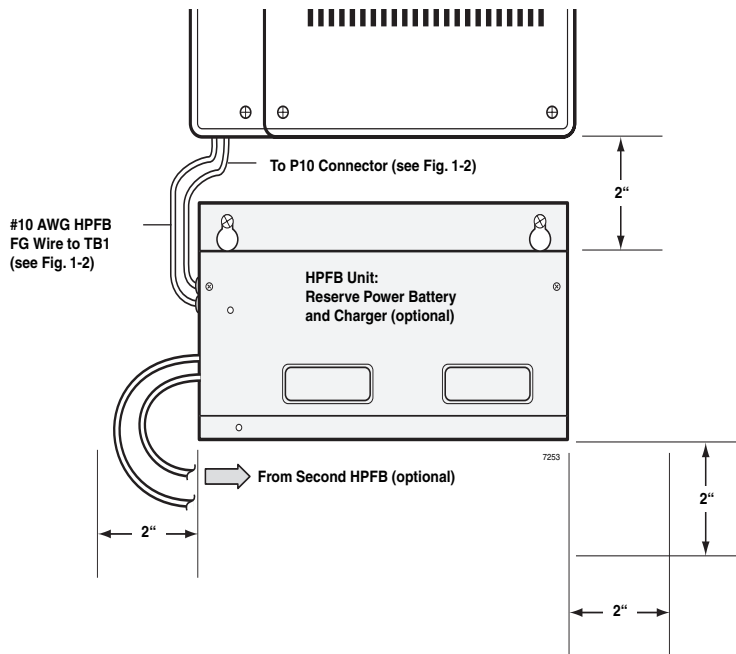

Figure 1-14 HPFB-6 Reserve Power Installation
1. Place the HPFB-6 directly below the Strata CTX28 KSU. See Figure 1-14 for minimum clearance requirements. A second HPFB-6 can be installed directly below the unit to supply backup reserve power.